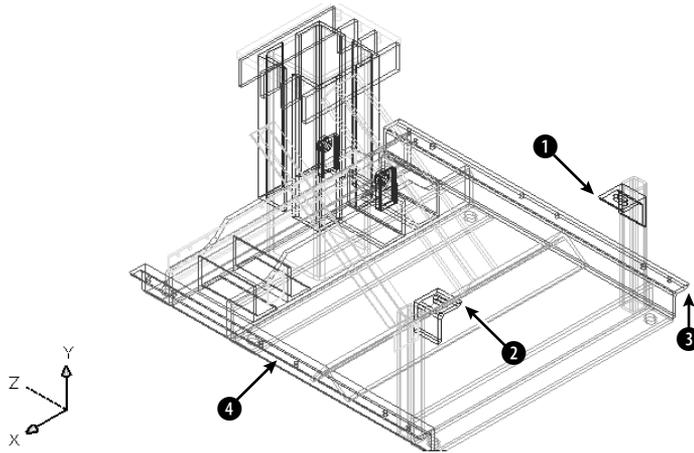

Figure 28-7: The base assembly frame.
2. Save the file as `ab28-01.dwg` in your **AutoCAD Bible** folder. This is a 3D drawing of a base assembly frame for an industrial washer, shown in Figure 28-7.
4. Choose **Insert** ⇨ **Hyperlink**. At the **Select objects:** prompt, pick ① and ② in Figure 28-7. The **Insert Hyperlink** dialog box opens.
6. Repeat the **HYPERLINK** command. This time attach ③ and ④ in Figure 28-7 to `ab28-b.dwf` in your **AutoCAD Bible** folder. Click **OK** to close the dialog box.